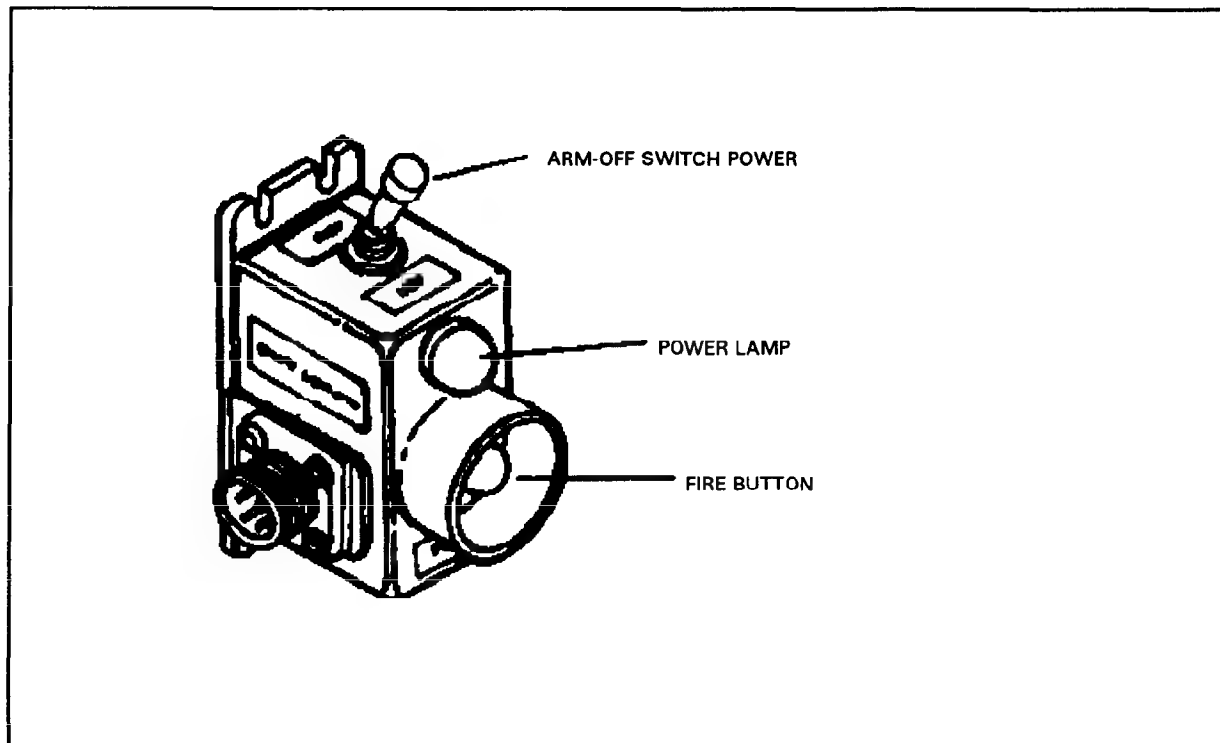

Figure 4-15. Smoke grenade ARM-OFF switch, power lamp, and fire button.
a. **Load Grenade Launcher.** The gunner places the grenade launcher ARM-OFF switch in the OFF position and ensures the power lamp is not on (Figure 4-15, page 4-24). The loader removes the rubber cover from the tubes